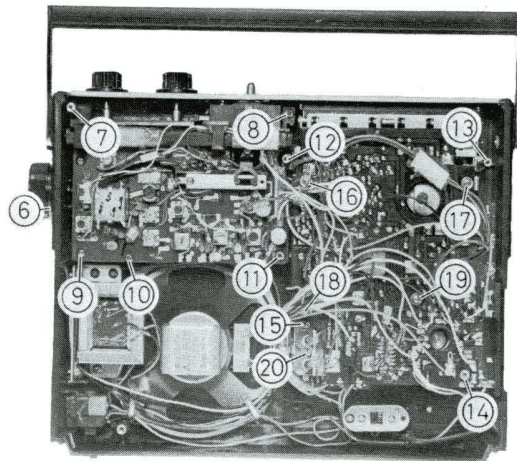

Fig. 13
b. Removing the tuner chassis (Fig. 13)
- 2) Remove screw (6) (SBSB2610Z) located on the right side panel.
c. Removing the mechanism chassis (Fig. 13)
- 1) Remove studs (12) and (13) (V41952-009), stud (14) (V41576-014) and screw (15) (SBSB3008Z).
d. Removing the amplifier circuit board (Fig. 13)